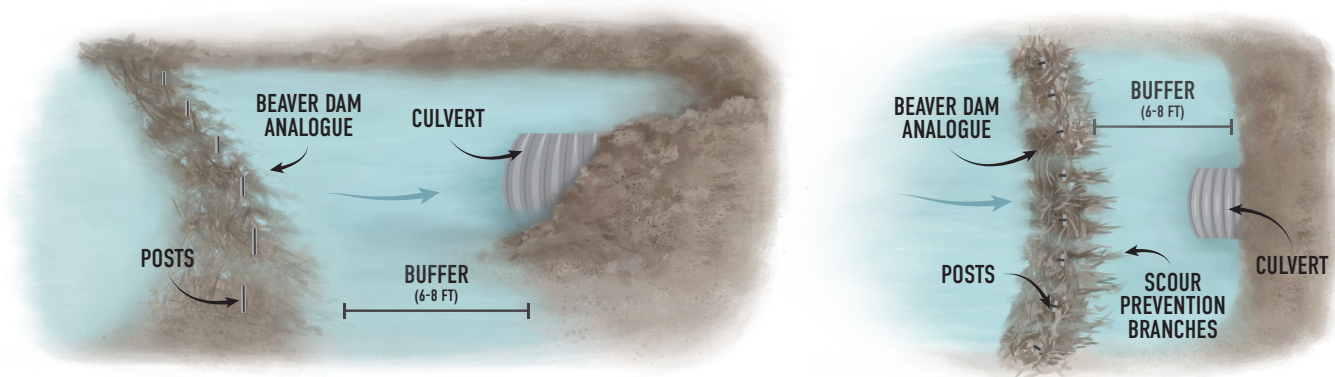
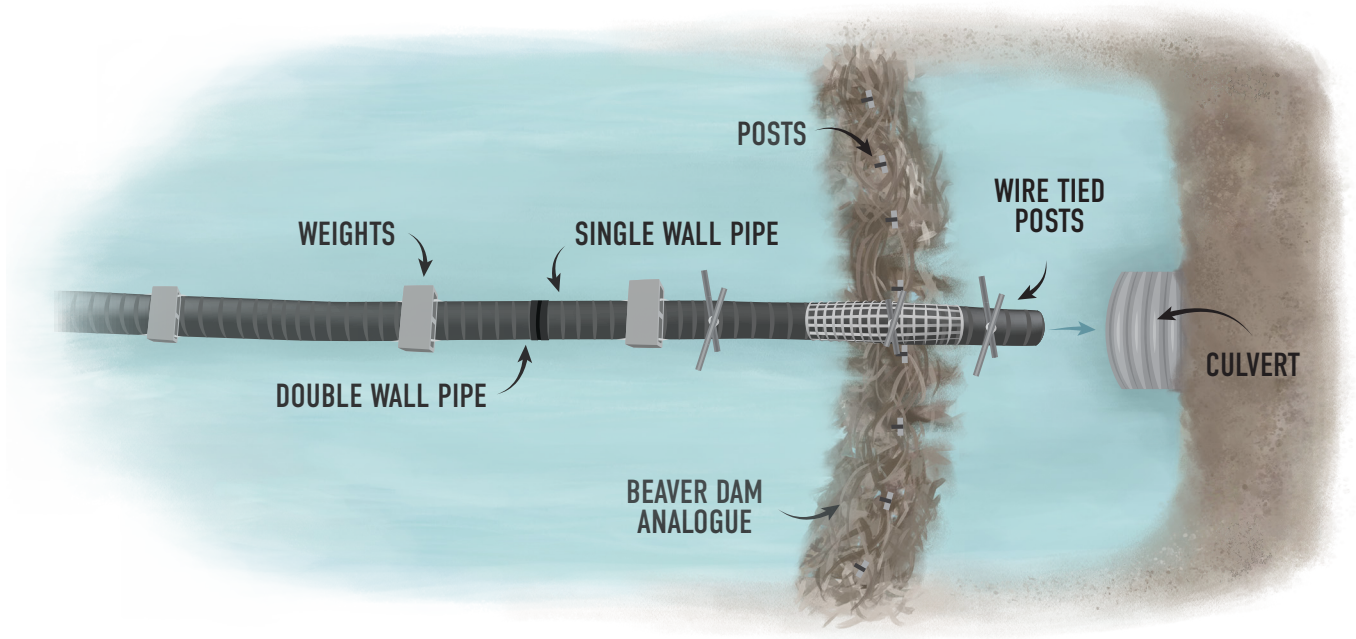

Figure 11. Anchor dam using a post-less BDA that is reinforced with steel posts.
Figure 12. Combination of an anchor dam and pond leveler to create a pipe and dam culvert protection system.
An **anchor dam** (Figure 11) is a similar strategy used to protect culverts at sites where fencing should not be used in the stream. This tactic includes construction of a Beaver Dam Analog (BDA) reinforced with steel posts—just upstream of the culvert mouth. While this tactic does not exclude the beavers from the infrastructure, it can divert them into investing and improving upon the reinforced BDA as their new dam, leaving the culvert open. This design can be modified to accommodate a pond leveler through the reinforced BDA if the extent of the upstream beaver pond must be limited. The modification of adding a pond leveler to an anchor dam is often called a **pipe and dam** culvert protector (Figure 12).
2. Stabilize with heavy-duty steel posts, firmly driven into the streambed no less than 12" apart (Figure 11).
4. Position the overflow pipe over the anchor dam, using the same procedure outlined for a natural beaver dam (Figure 12).